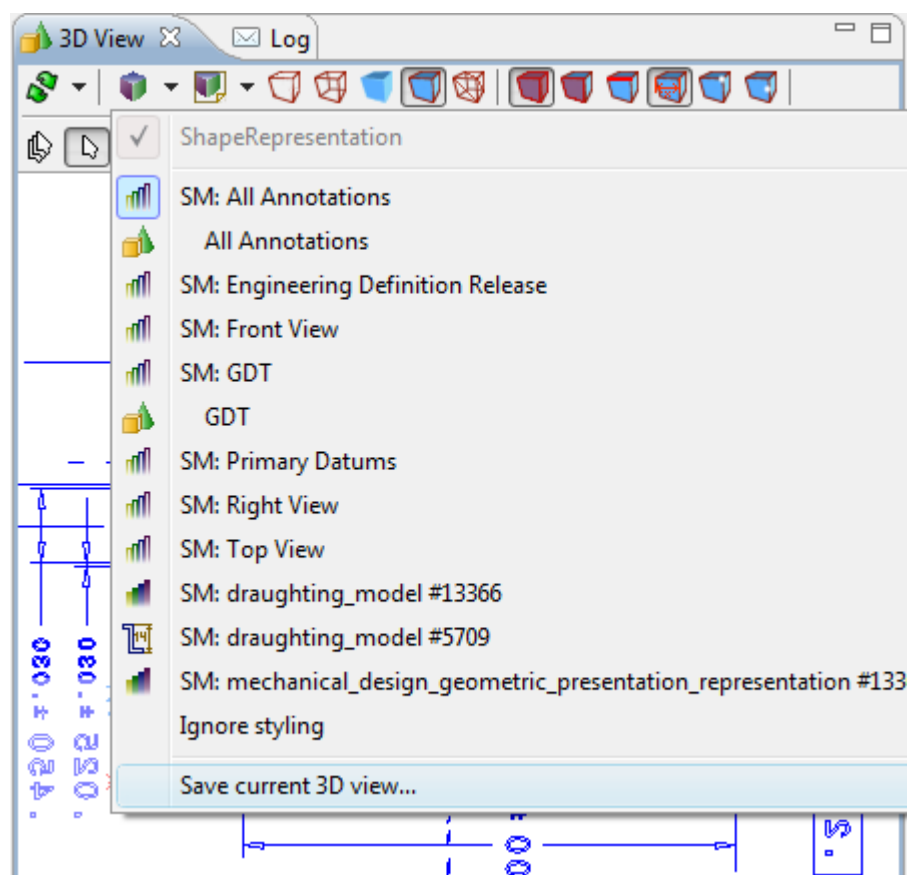

Figure 1. 3D View page with Styled model drop down list, selected Save current 3D view... menu item
- Select **Save current 3D view...** item in the appeared drop down list (see Figure 1).